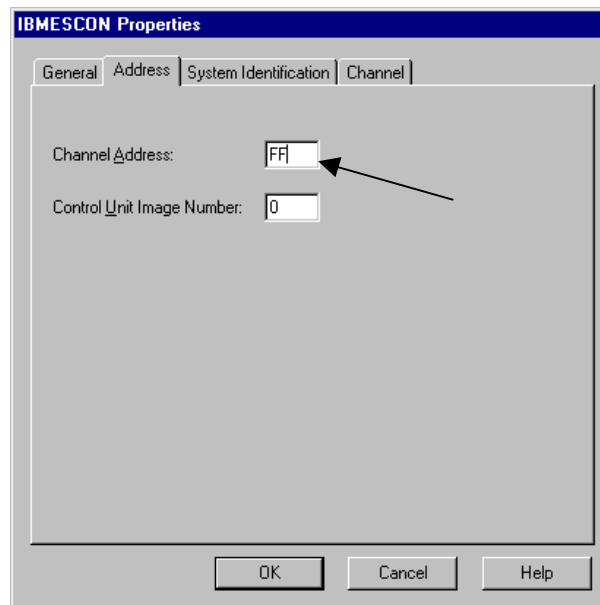

Figure 15-17. Channel (PU) Address]
3. On the connection properties verify the Channel Address (PU Address) matches that defined in the ESCON configuration and mainframe IOCP (Figure 15-17).